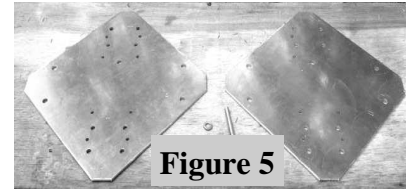

Figure 5
- Two boom-to-mast plates (**Figure 5**)